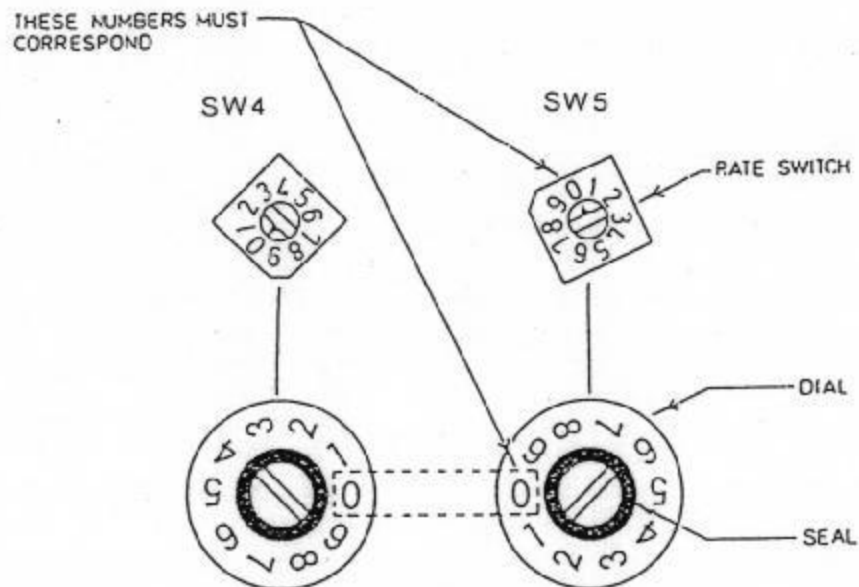

Figure 4 - Configuration of Dials and Rate Switches
1. Replace the two dials (items 11 and 12), on the rate switches SW4 and SW5 (items 14). A rubber seal (item 22) must be fitted firmly into the groove, in each of the dials.
- B) Keeping the dials in the same relative position insert the left-hand dial in SW4 and the right-hand dial in SW5, ensuring that the dial position and switch position correspond (see Fig.4).